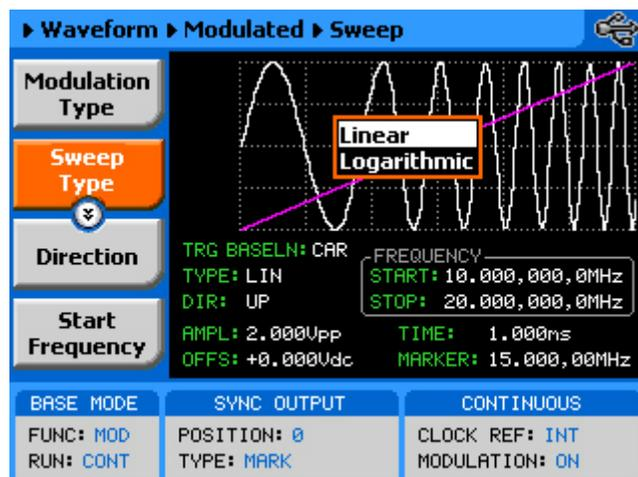

Figure 3-23, Selecting the Sweep Type
**Sweep Type** – defines the steps of which the frequency increments or decrements from start to stop frequencies. A choice is provided between linear and logarithmic steps. If you select linear sweep the carrier waveform frequency steps through the frequencies within a time interval which is set by the sweep time parameter. Likewise, using the logarithmic sweep type, the frequency span between the start and stop frequencies is stepped through using logarithmic steps. The menu that selects the sweep type is shown in Figure 3-23.